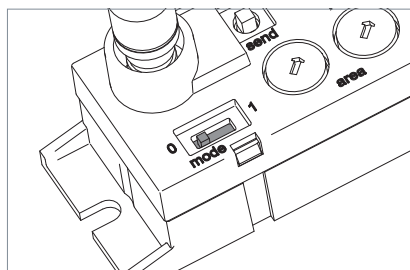

Fig. 14: Luminaire communication disabled.
- Slide the "mode" slide switch to position **0**, see Fig. 14.